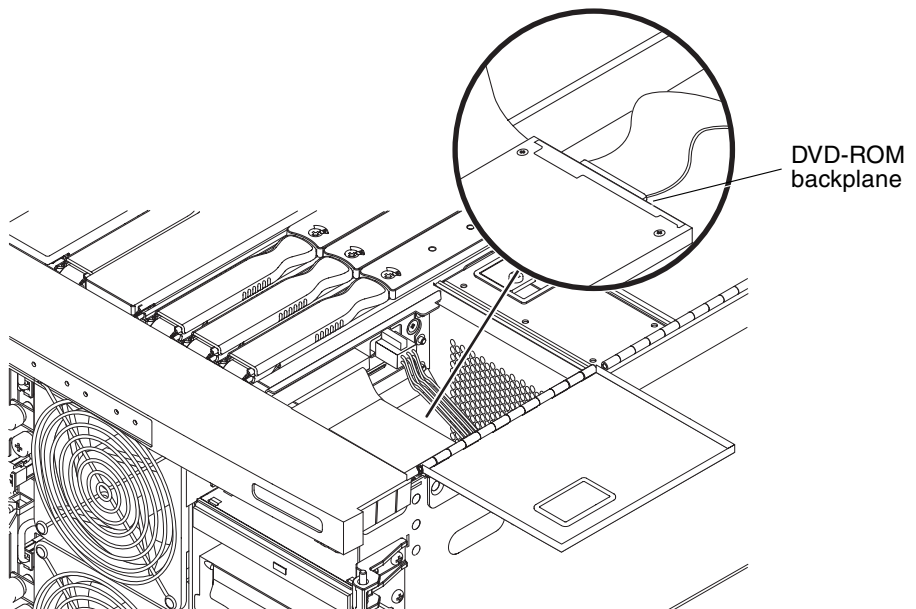

FIGURE 6-17 DVD-ROM Backplane
4. Remove the DVD-ROM backplane, which is the small board located at the back of the DVD-ROM drive (FIGURE 6-17).